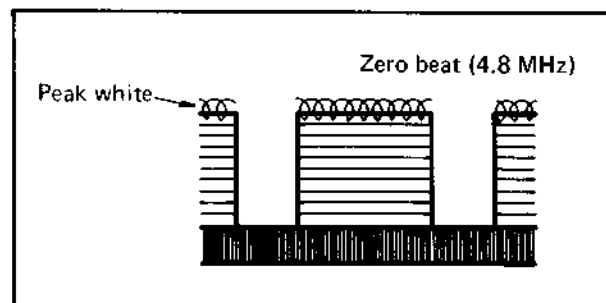

Fig. 6-26 Carrier and deviation adjustment - B
6. Set the frequency of high-frequency sine-wave generator to 4.8 MHz, and adjust R36 (DEVIATION), so that the waveform observed on the oscilloscope shows a zero beat at the top of the video signal as shown in Fig. 6-26.